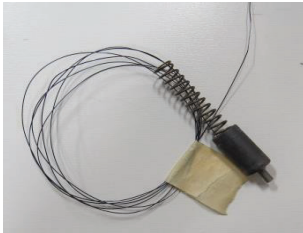

Figure 34: Coil the trigger, spring, and wire to be packaged for return to McNeilus Warranty.
7. Coil the trigger, spring, and wire. Tape the coiled wire at one end to keep it in a bundle (Figure 34).